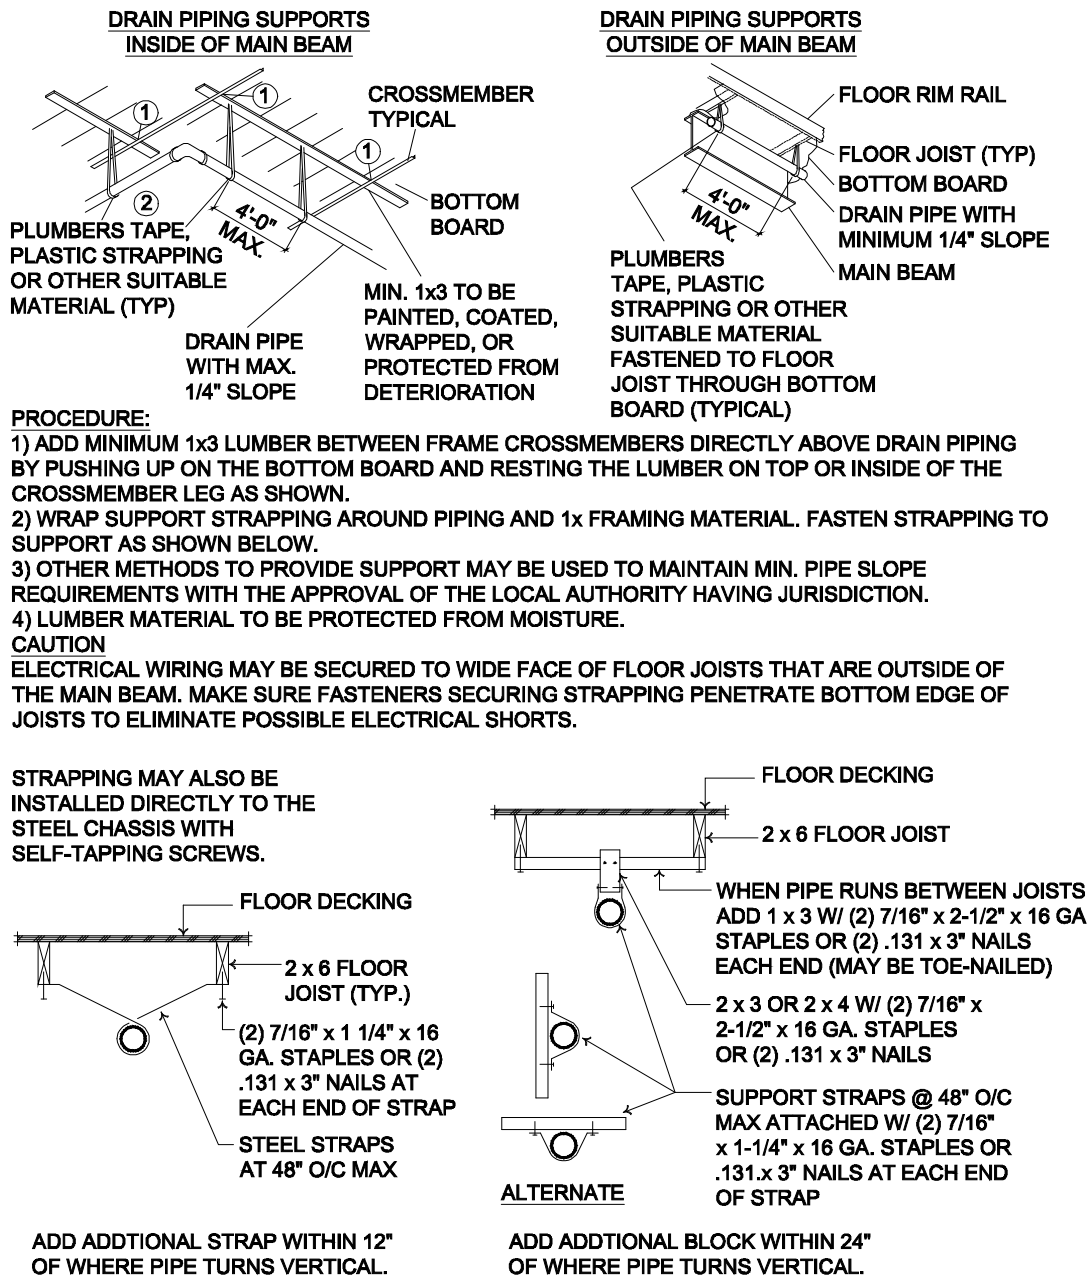

Figure 49. DWV pipe support options
5. **Install supports.** Install permanent drain line supports at a distance of four feet o.c. or less (see Figure 49). Alternate DWV pipe support may be used if approved by the local authority having jurisdiction.